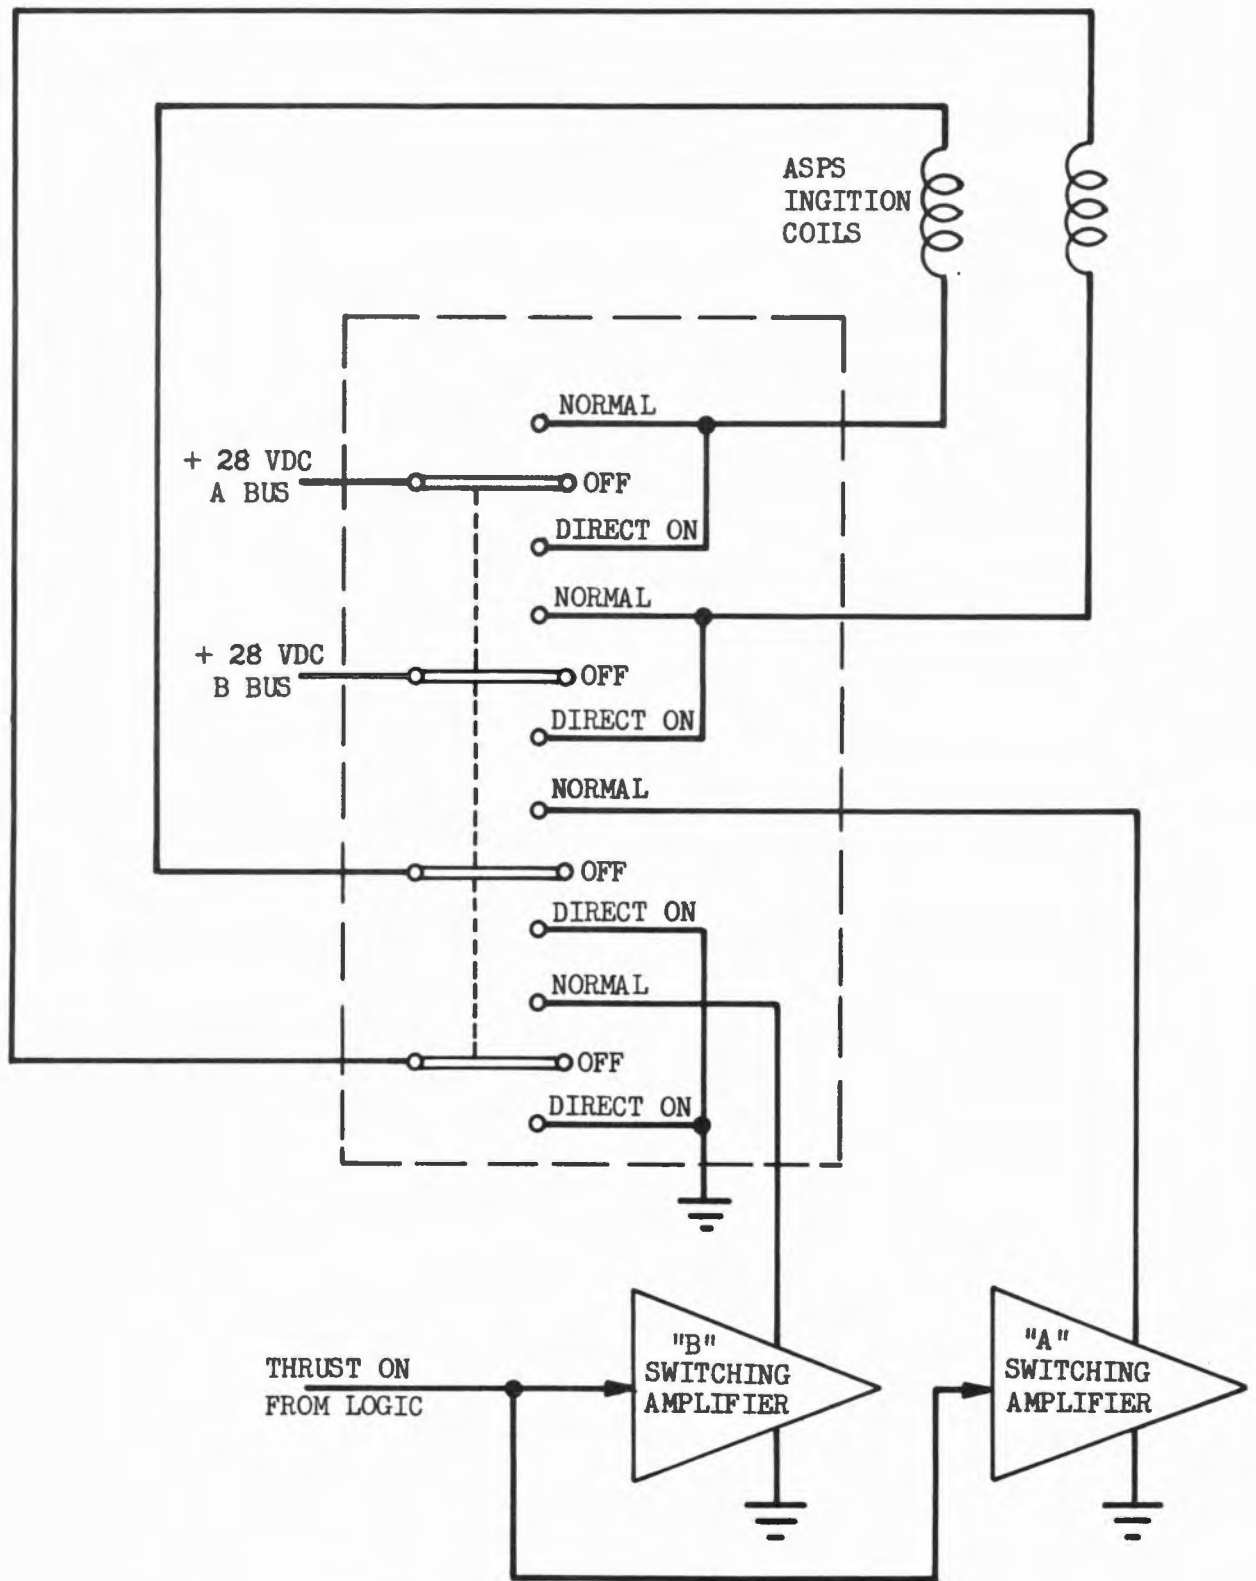

Figure 5-22. Thrust Control Switch Circuitry
5.2.2.2.2 For the G&N Auto control circuitry to control SPS "on/off", one more condition must be satisfied within the SCS. The thrust control switch must be in normal position, (see Figure 5-22).
5.2.2.4 Direct On/Direct Off. The direct off function has been discussed in both of the preceding sections. As has been seen by inspecting Figure 5-22, both of the 28 vdc inputs and both ground return paths for the SPS coils are opened by placing the thrust on switch in the off position. This provides a positive off control of the SPS.
5.2.2.4.1 To cover the cases when the common power supply logic line or other failures prevent an automatic on, a direct on position has been provided for manned flights, (see Figure 5-22). Separate paths of the direct 28 vdc paths are connected from the direct circuit breaker to the top of the SPS coils. The dc ground is connected to the return side of each path.